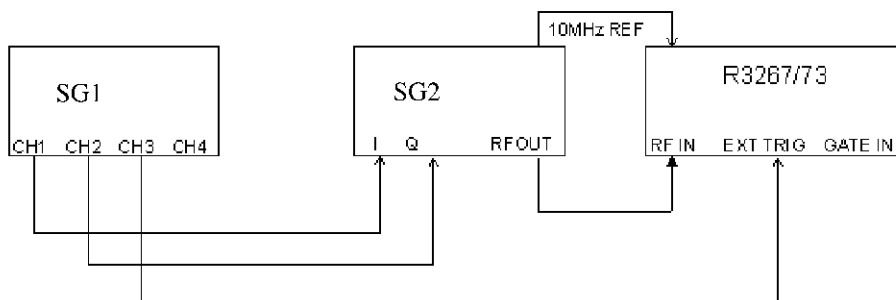

Figure 6-7 Setup of QPSK Measurement Test
1. Connect equipment as shown Figure 6-7.